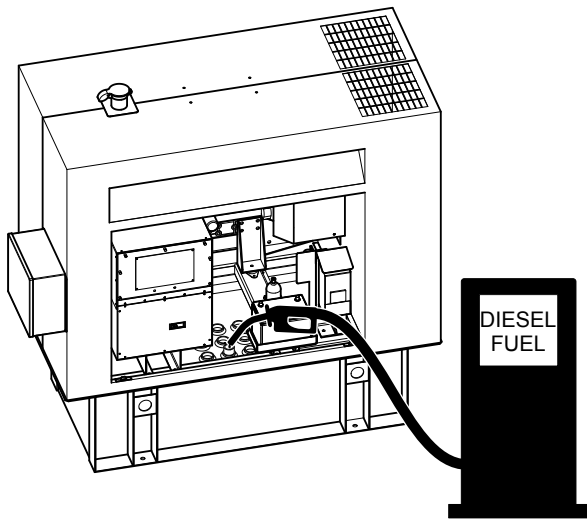

Figure 9. Fueling the Generator
2. Unlatch and remove the cabinet door of the generator. Remove fuel cap and fill tank (Figure 9).